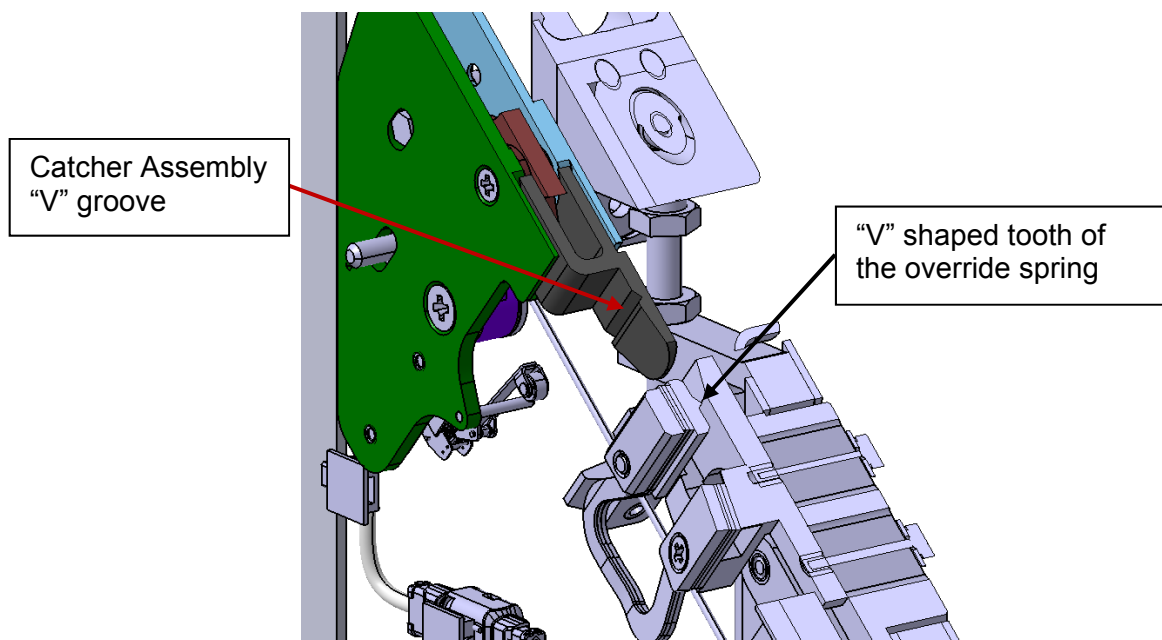

Figure 4 – Catcher Assembly Not Engaged with Override Spring with Door Shown Approximately 1 inch (2.5 cm) from Fully Deployed Position
2. Firmly push the door to the fully deployed position with a force of approximately 25 pounds and verify that the catcher assembly re-engages the override spring (Figure 4):